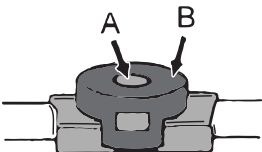

Figure 1
- Disinfect the septum (A) and the cap (B) with a disinfectant such as alcohol, before and after use of the device. (See Figure 1)